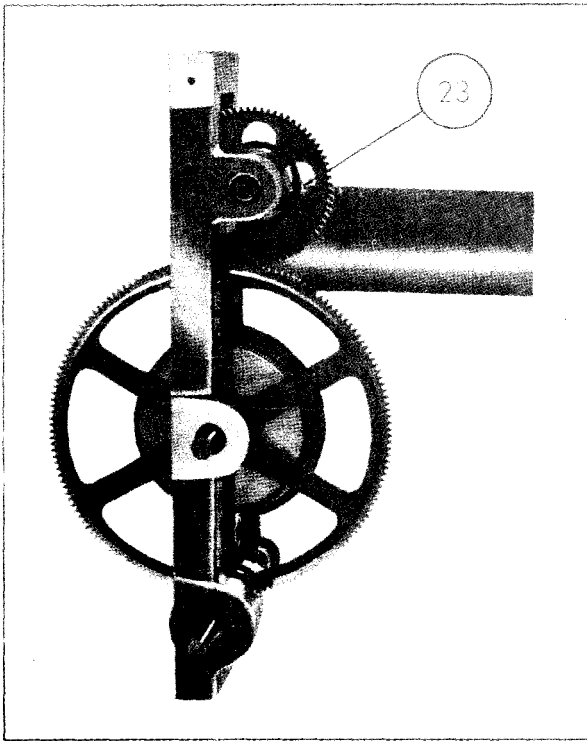

Figure 4-15. front View of Assembled Drive
when looking at the front edge of the casting. The small spur gear can be seen in figure 4-15 in proper position with a #4-40 screw (23) inserted in the hole. Then mesh the large spur gear (21) with the top and bottom gears in such a way that the 4-40 tapped hole in the hub of the gear will be at 10 o'clock. Put the 5/16" diameter shaft (20) through the bearing and gear hub, place cam (22) on shaft and tighten set screws in hub of gear so that the shaft extends 11/16" from the face of the casting. It is not necessary to tighten the set screws in the cam at this time.